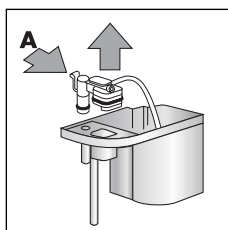

fig. 22
- Remove the red frother by pressing on the clip (A) and at the same time pulling upwards (fig. 22). Remove the rubber mixer, wash and clean with hot water, particularly the four holes indicated in figure 23 (use a needle). Make sure the hole indicated with the arrow B is not blocked.